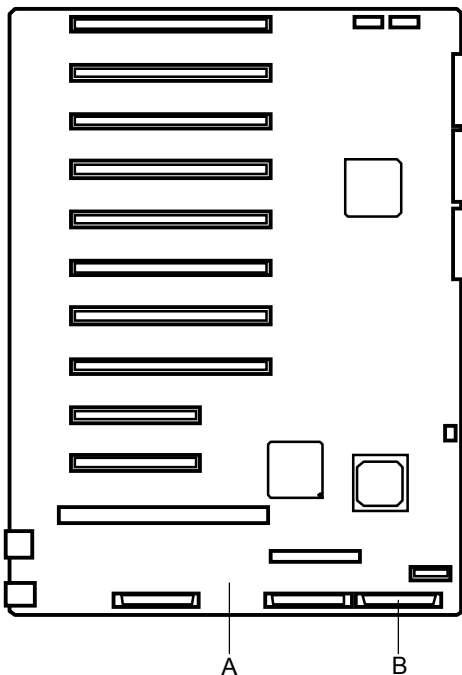

Figure 4-42. Locating the Ultra-160/m SCSI connector
- Remove the end of the SCSI interface cable that is plugged into the Ultra-160/m SCSI connector (B) on the system I/O board (A), see Figure 4-42.